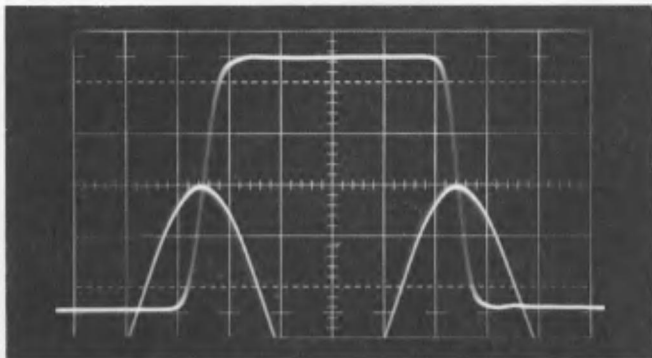

Fig. 4-15. Crt display for proper setting of 100 nS Pulse Width capacitor C195F.
- f. Set the SWEEP MAGNIFIER control to X5. Use the HORIZONTAL POSITION and TRIGGERING LEVEL controls to obtain the display shown in Fig. 4-15.